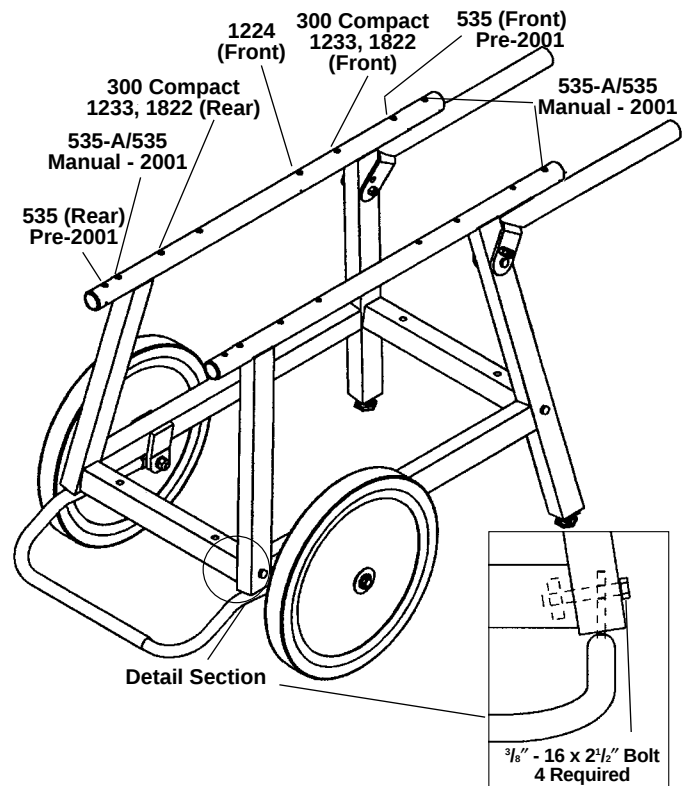

Figure 4 – Stand Assembly
3. Assemble stand with “inside” decals located towards the inside of the stand (*Figure 4*).
4. Insert stand stop tabs into bottom of the legs as shown in the detail drawing. Use the four (4) $\frac{3}{8}$ " - 16 x $2\frac{1}{2}$ " hex bolts to secure the legs to the cross-member. Adjust the two halves of the stand stop to the
CAUTION For proper balance and operation, RIDGID machines must be mounted through the appropriate holes in the legs (*Figure 4*).